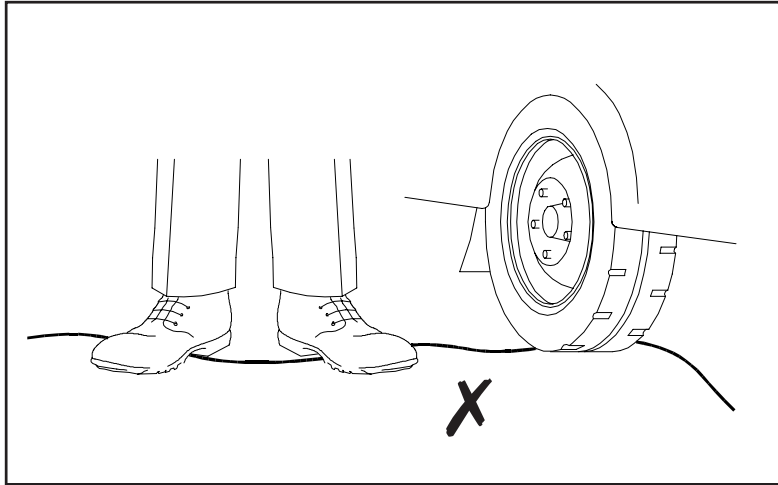

Figure 2
2. Sensor deployed and ready for fixing to the building must be protected from damage by persons walking on it or vehicles driving over it. Figure 2 illustrates typical maltreatment of sensor which must *not* occur. Sensor subjected to such severe